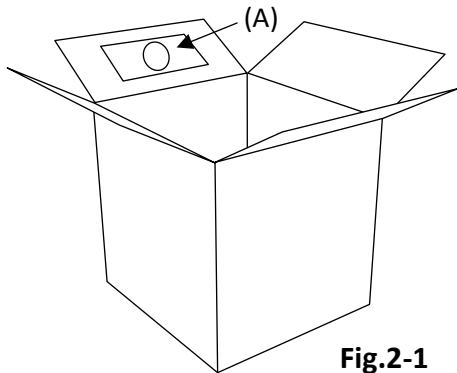
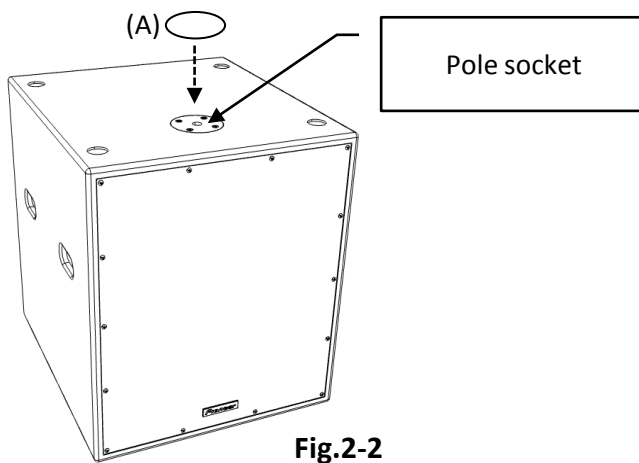

Fig.2-1
Fig.2-2
- (1) White seal (A) is included inside of the packing box. (Fig.2-1)
- (2) Carefully remove the tip of the cover of the double-face tape on the white label(A), then peel it off.
- (3) Place the white seal (A) to fully cover the top of the pole socket. (Fig.2-2)